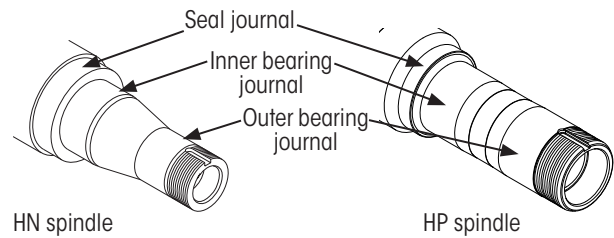

Figure 7: Spindle seal & bearing journals
2. **Inspect** machined spindle journals (Figure 7) for nicks, scratches, burrs or marks. If needed, use crocus cloth or emery cloth to repair any damaged areas.
1. Taking care not to damage the seal, gently slide the hub onto spindle until the seal is against the spindle seal journal (Figure 7).